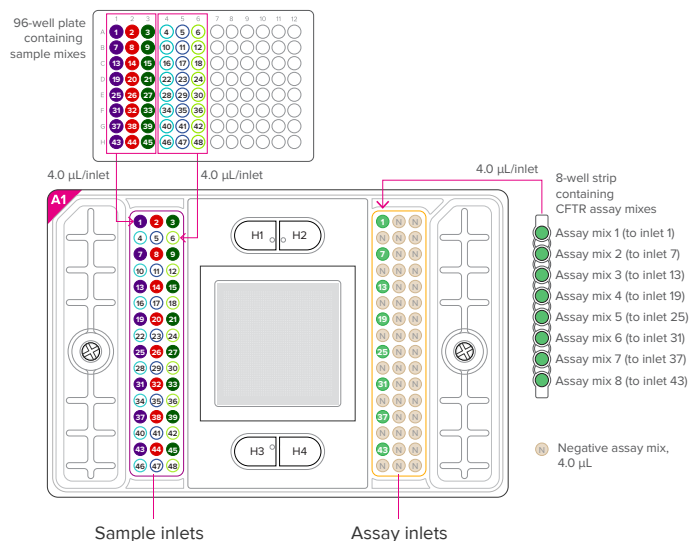

Figure 5. Loading map
- Before pipetting reagents, maintain traceability by noting the orientation of the A1 corner, assay inlets, and sample inlets, as shown in Figure 5.
- 1 Pipet the CFTR assay mixes and sample mixes into the LP 48.48 IFC as shown in Figure 5.
- b Carefully pipet 4.0 µL of non-assay mix from the 8-well strip labeled NAM into the remaining assay inlets (N).